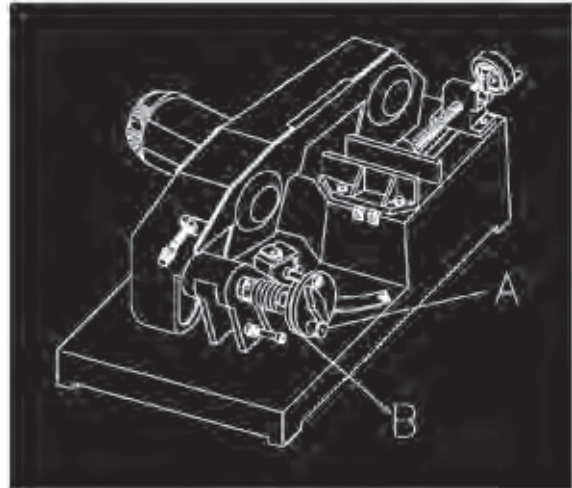

Fig. 3
1. Release the locking pin by gently pulling on button (A) of Fig. 3.
2. Turn wheel (B) towards the button and stop at mark M. Let the locking pin slide into the groove. The feed rate is adjusted for cutting thicker metal tubing.